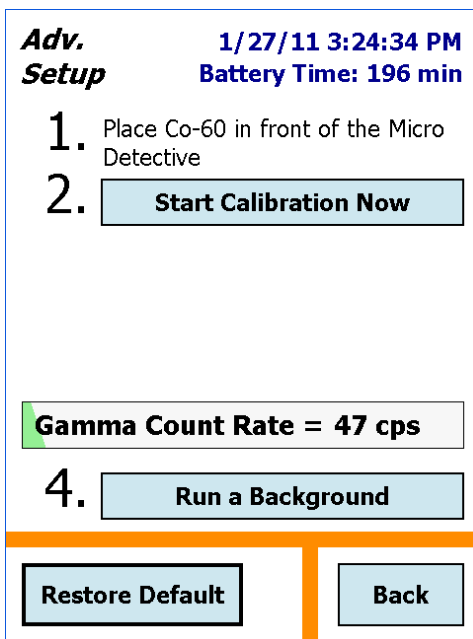

Figure 15. A New Background Is Required.
- The final step is to take a representative background measurement. Figure 15 shows the final calibration screen. Remove the calibration source, tap the **Run a Background** button, then refer to Section 2.10 below.